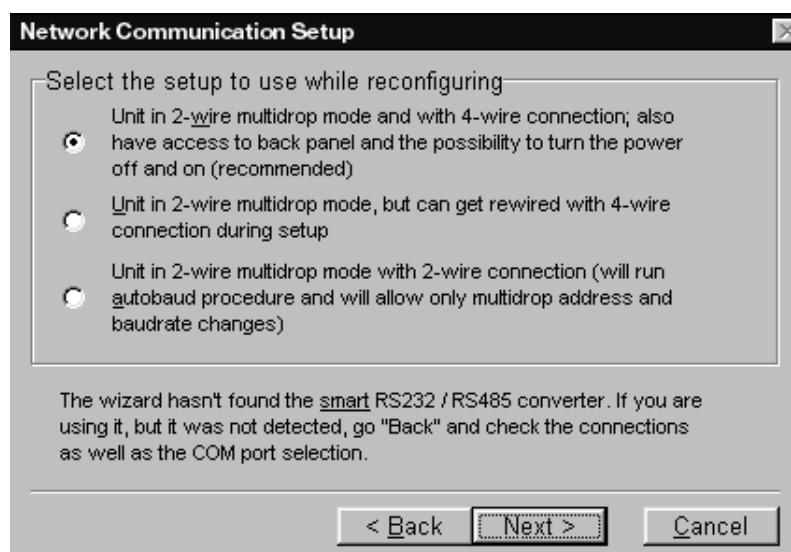

Figure 3-12: 2-Wire Setup Screen
- After you click on the Next button a screen similar to Figure 3-12 displays.